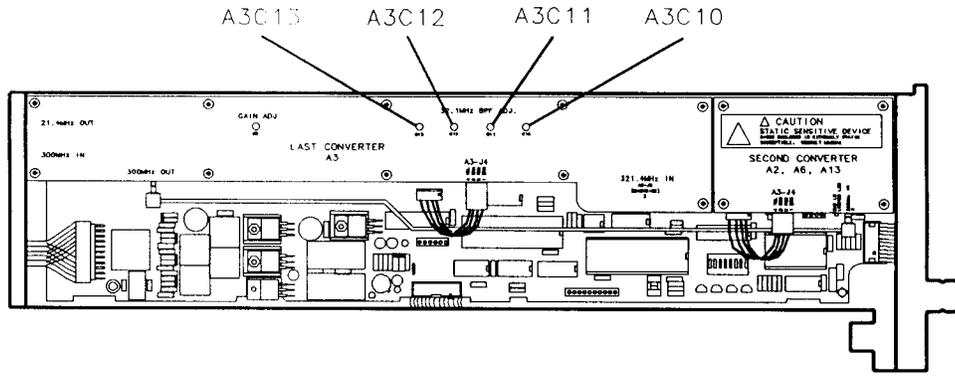

Figure 4-36. Last Converter Bandpass Filter Tune Locations
3. Remove the side-cover on the left-hand side of the RF section, then connect the equipment as shown in Figure 4-35. Do not connect the interface bus of the network analyzer to the full microwave source. Figure 4-36 illustrates the adjustment locations